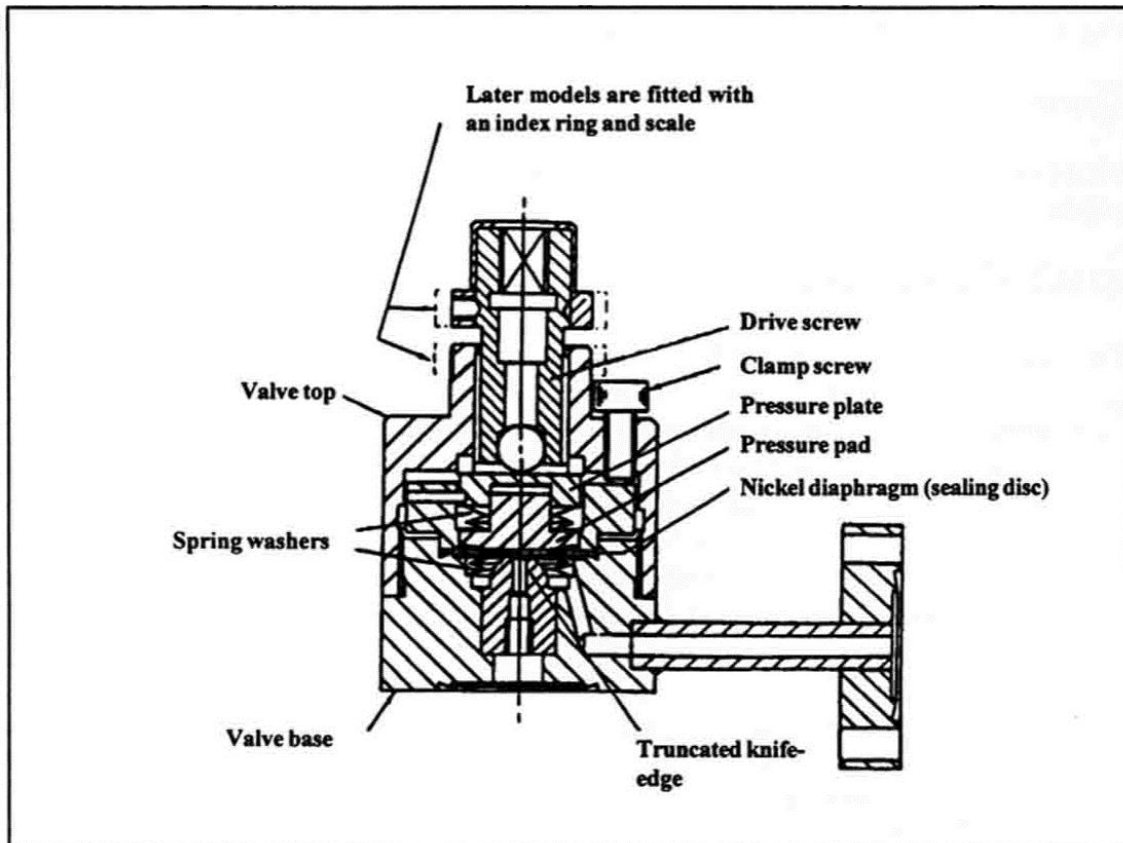

Figure 5 - The MD5 coarse leak valve
The MD5 is illustrated in figure 5. It is specially designed for handling hot and/or corrosive gases, and for this reason it is constructed from corrosion-resistant materials. The body is made from stabilised stainless steel and instead of the normal scaling member materials; the valve has a stellite-faced knife edge and a nickel diaphragm. The latter not only forms the sealing pad but is also an integral part of the vacuum envelope which minimises the dead volume of the valve.
1. Fully open the valve. Refer to figure 5.